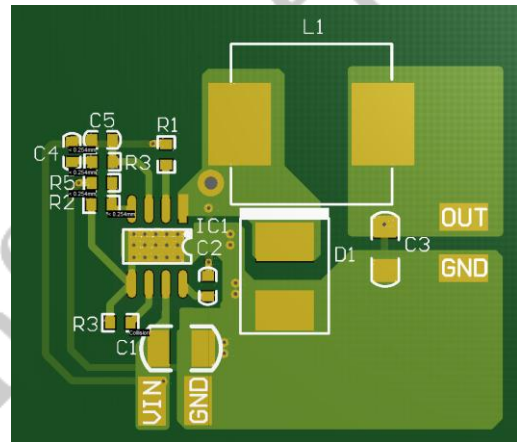

Figure 6: PCB Layout Reference
5. Connect VIN, SW, and especially GND respectively to a large copper area to cool the chip to improve thermal performance and long-term reliability. The 20s copper thickness is suggested for better thermal performance in real application. Figure 6 is PCB layout reference.